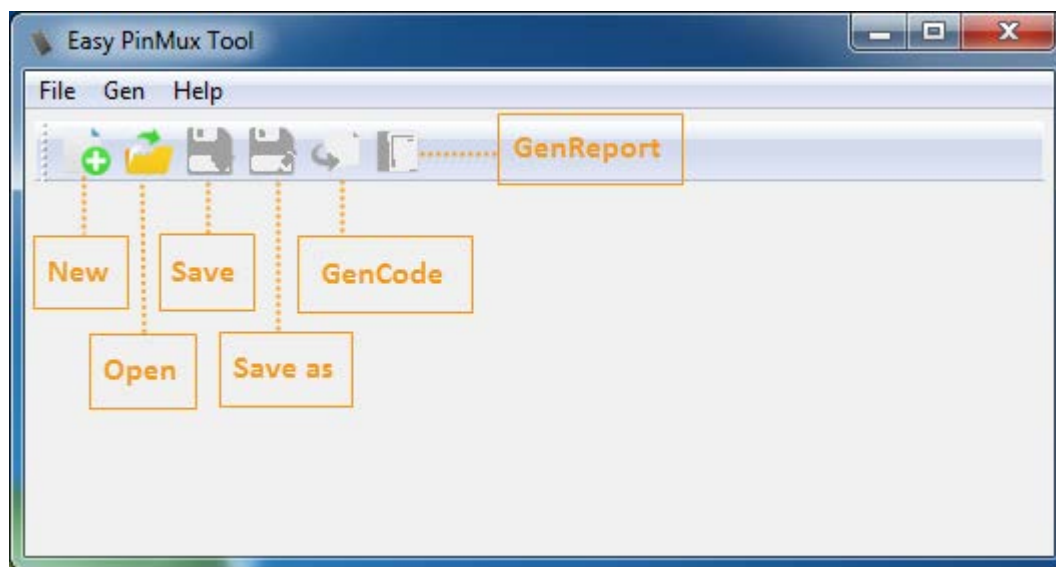
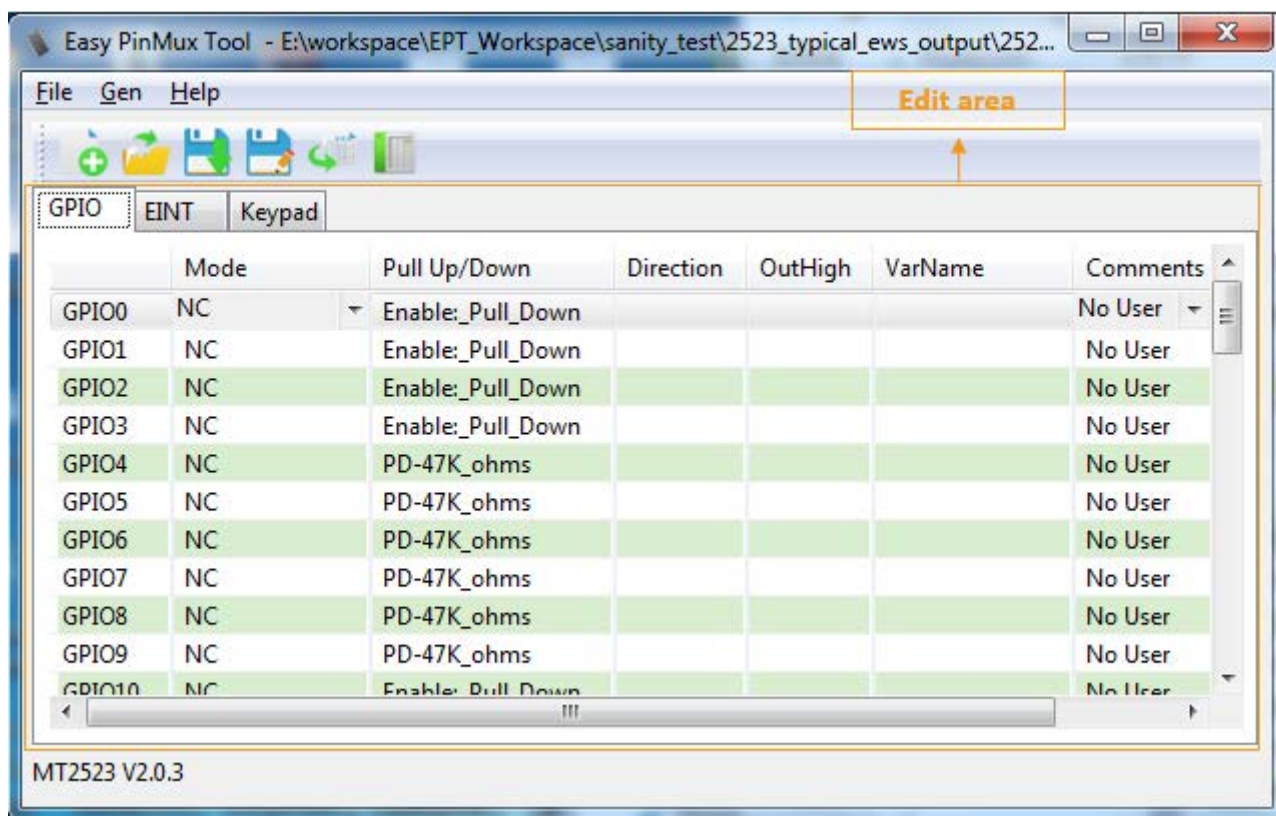

Figure 1. Main UI of the EPT with an empty workspace
Figure 2. Main UI of the EPT with a workspace
- 3) In **Gen** menu click **GenCode** to generate a source code of the driver stored under \output\25x3(76x7) folder of the tool. The main GUI is shown in Figure 1 and Figure 2.
Open the **GPIO** page by open or creating a workspace on the main UI, as shown in Figure 2. It is used to set the GPIO parameters. The GUI enables setting up the **Mode**, **Pull up/down**, **Direction**, **OutHigh**, variable name **VarName** and **User Information** for the GPIO pins.